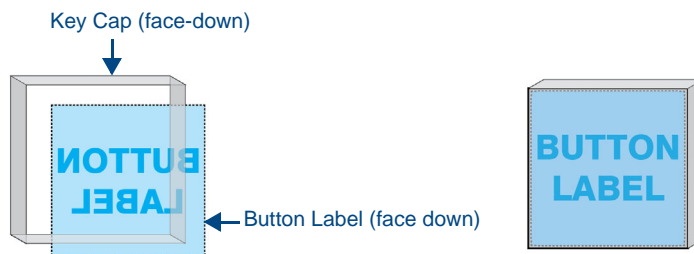

FIG. 4 Placing a Button Label inside a Key Cap
3. Place the key cap face-down, and insert the button label into the bottom of the key cap (FIG. 4). If the button label is not installed face-down, the label will be seen in reverse when the key cap is installed over the pushbutton.